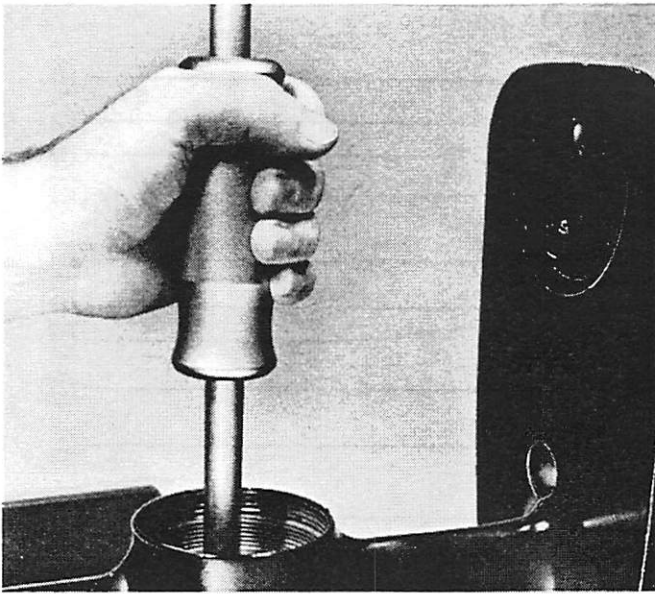

Figure 8. Removing Cup from Gear Housing
8. Remove bearing cup from gear housing with Slide Hammer Puller (91-34569A1) . (Figure 8)